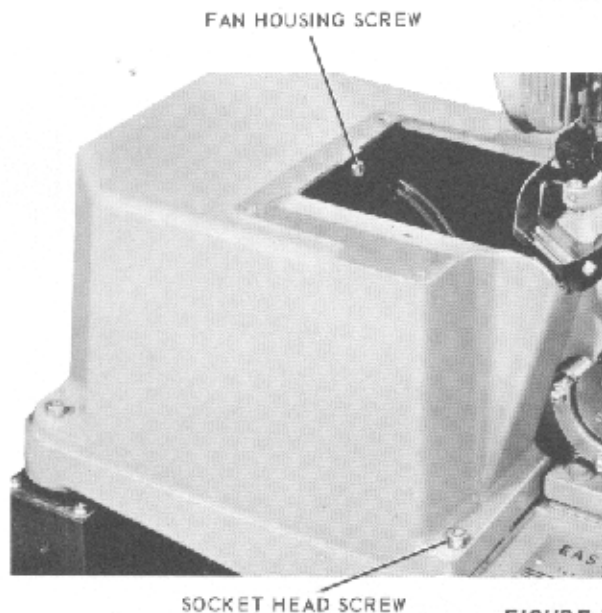

FIGURE 19
c. Remove the FAN HOUSING SCREW, figure 19, and the SOCKET HEAD SCREWS in the lamp house support. Lift off the support to expose the blower assembly.